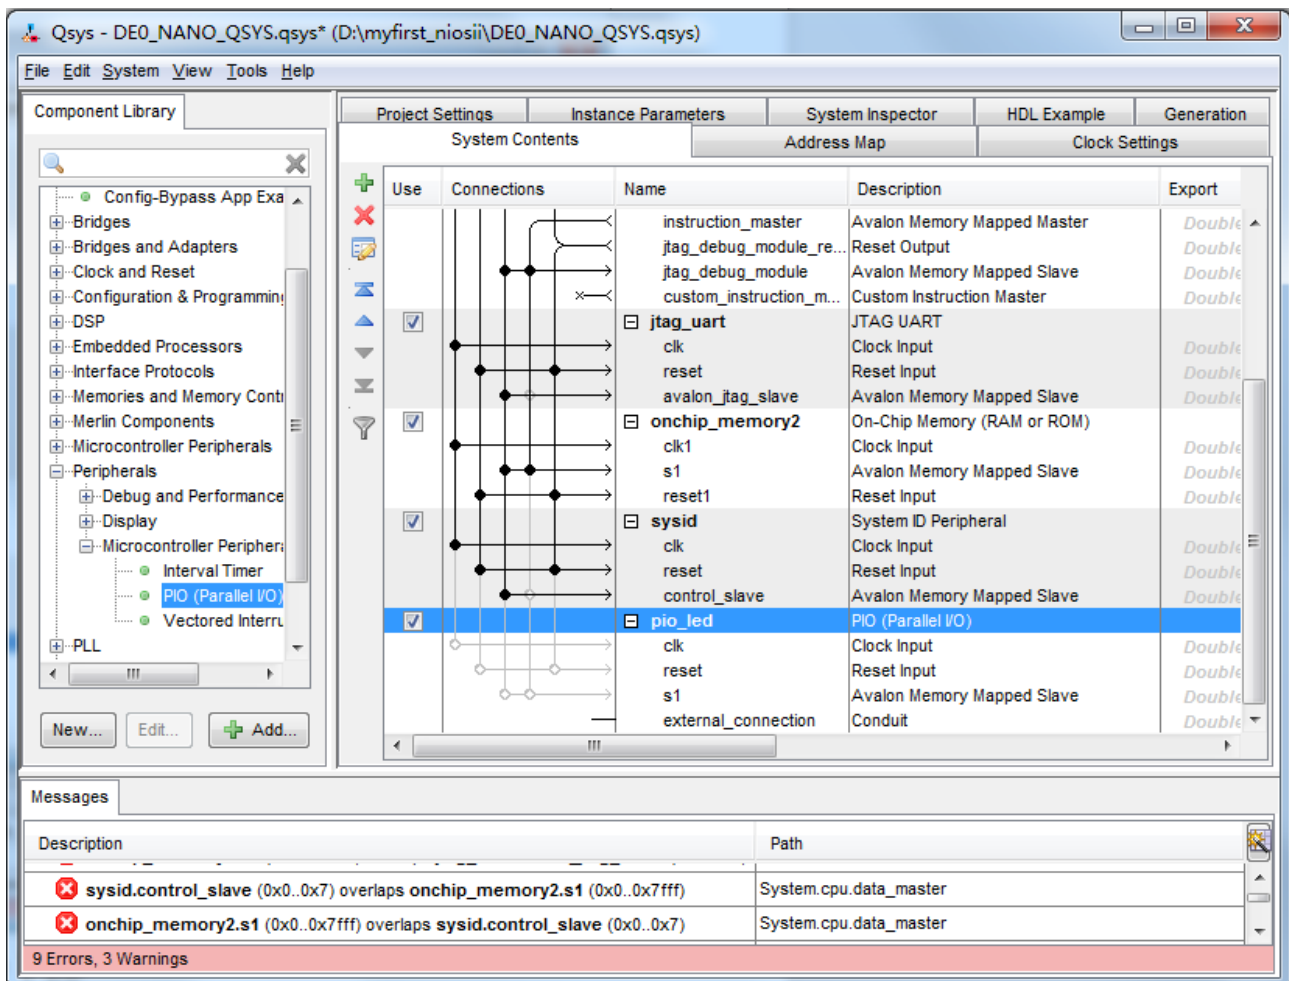

Figure 1-40 Rename PIO
25. Rename **pio\_0** to **pio\_led** as shown in Figure 1-40.